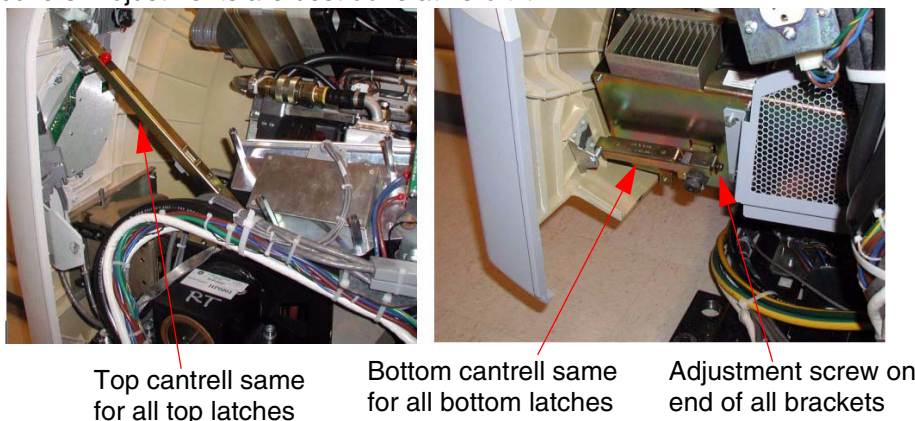

Figure A-25 Cantrells
- 3.) Use a 3 mm hex wrench to adjust the brackets on the front/rear covers for the fingers on the outer edge of the covers. Slide the bracket until it lines up with the top cover finger (see Figure A-25).